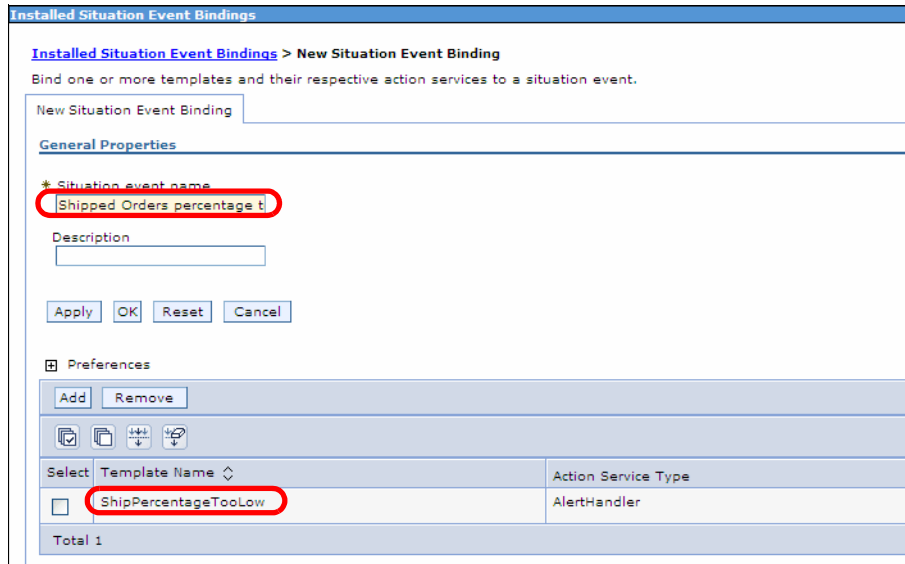

Figure 14-43 Ship Orders percentage too low situation event binding
- ▶ Review the completed situation event binding and click *OK* (Figure 14-43).